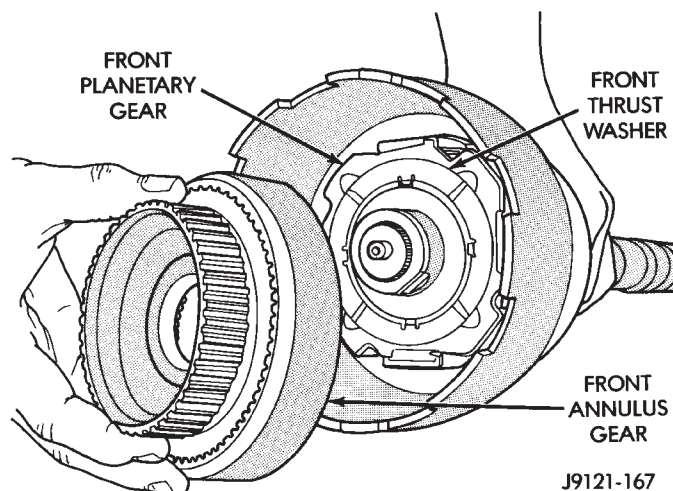

Fig. 90 Installing Front Planetary And Annulus Gears
(14) Install front planetary gear on output shaft and in driving shell (Fig. 90).
(15) Install front thrust washer on front planetary gear. Use enough petroleum jelly to hold washer in place and be sure all four washer tabs are seated.
(16) Assemble front annulus gear and support, if necessary. Be sure support snap ring is seated.
(17) Install front annulus on front planetary (Fig. 90).